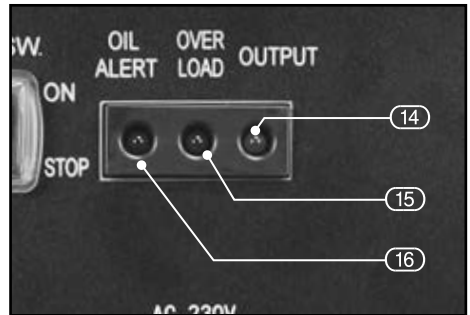

FIG.14
9.10 INDICATOR LIGHTS – FIG. 14